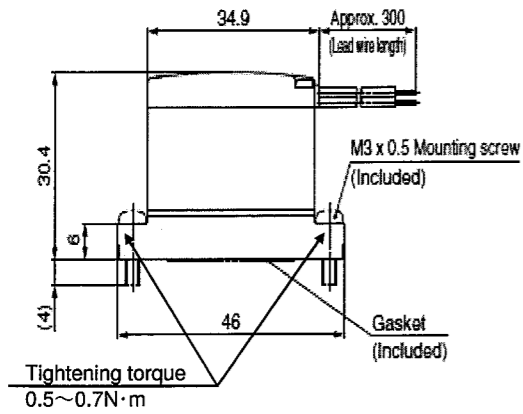

Figure 6
- Valve mounting screws to be tightened to the specified tightening torque as shown in Fig.6